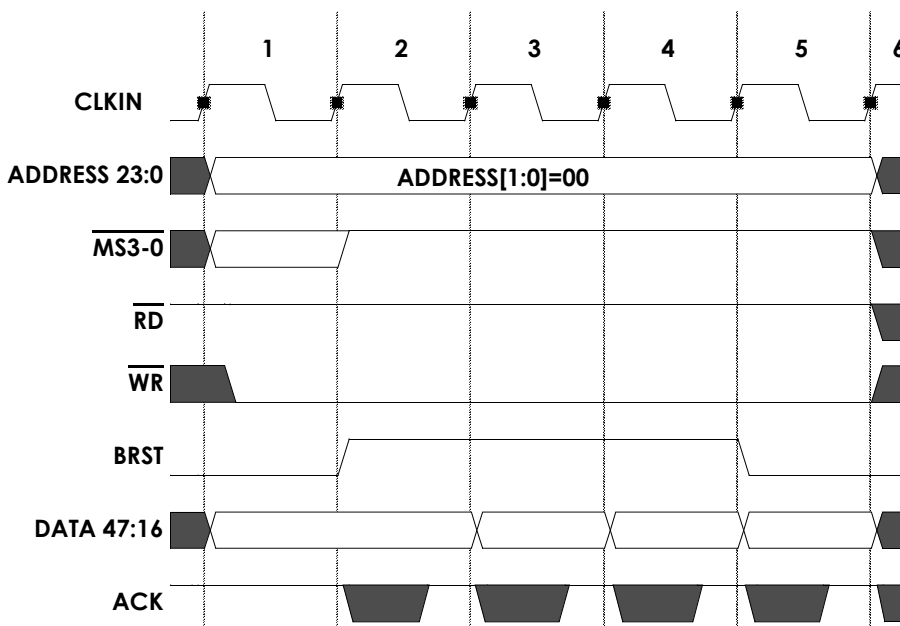

Figure 7-14. External Memory Synchronous Burst Write Example
An example of a synchronous burst write appears in Figure 7-14. Here, the bank used in the transfer has the one-waitstate mode, for the first write of the burst.
External memory synchronous burst writes occur with the following sequence of events as shown in Figure 7-14:
1. (cycle 1 in Figure 7-14) If **ACK** is sampled asserted at the start of cycle 1, the DSP drives the write address and asserts a memory select signal ( $\overline{\text{MS3-0}}$ ) to indicate the selected bank. The DSP also drives valid data in this cycle. The DSP asserts the  $\overline{\text{WR}}$  strobe to indicate a write command to the slave.